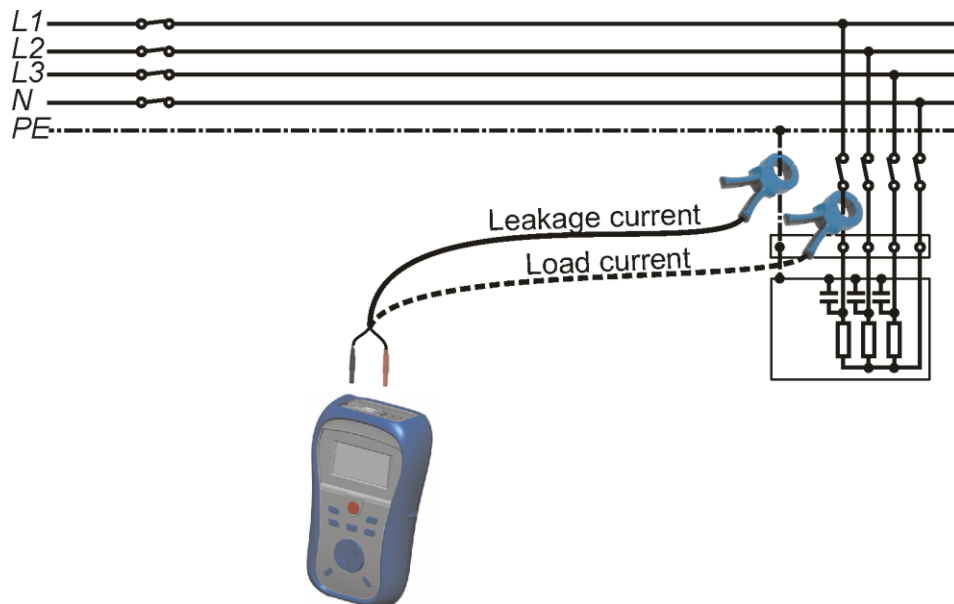

Figure 5.12: Leakage and load current measurements
- ❑ Embrace the tested conductor with current clamp (see figure 5.12).